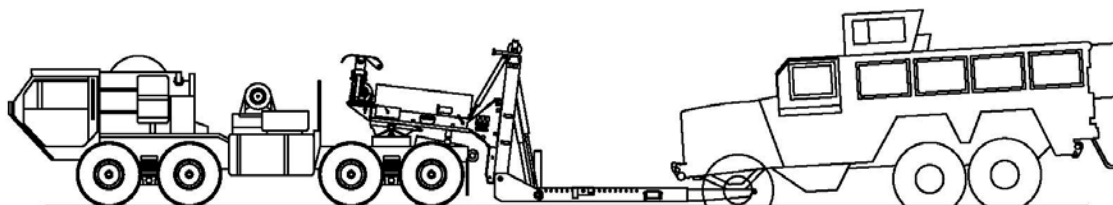

Figure 2- Extensions under suspension
- Using the remote control, **EXTEND LEFT and EXTEND RIGHT** boom extensions. Extend until the boom extensions pass under the front suspension of the disabled vehicle and are extended approximately 1 foot to the rear of the front A-Arms or cross members. (figure 2)